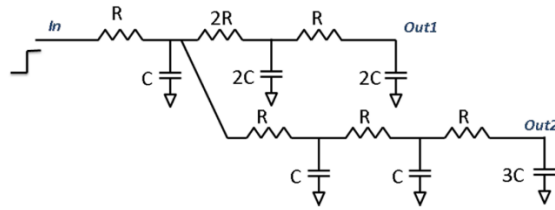

Figure 1. RC Network.
- a) A RC network is shown in Fig. 1. Calculate the Elmore delay from *In* to *Out1* and from *In* to *Out2*. Which one is critical path? [4 pts]